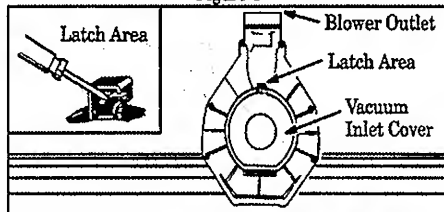

Figure 5
2. Set the unit, blower outlet up, on a flat surface (Figure 5). Open the vacuum inlet cover as follows:
- a. Insert a screwdriver into latch area. Figure 5.